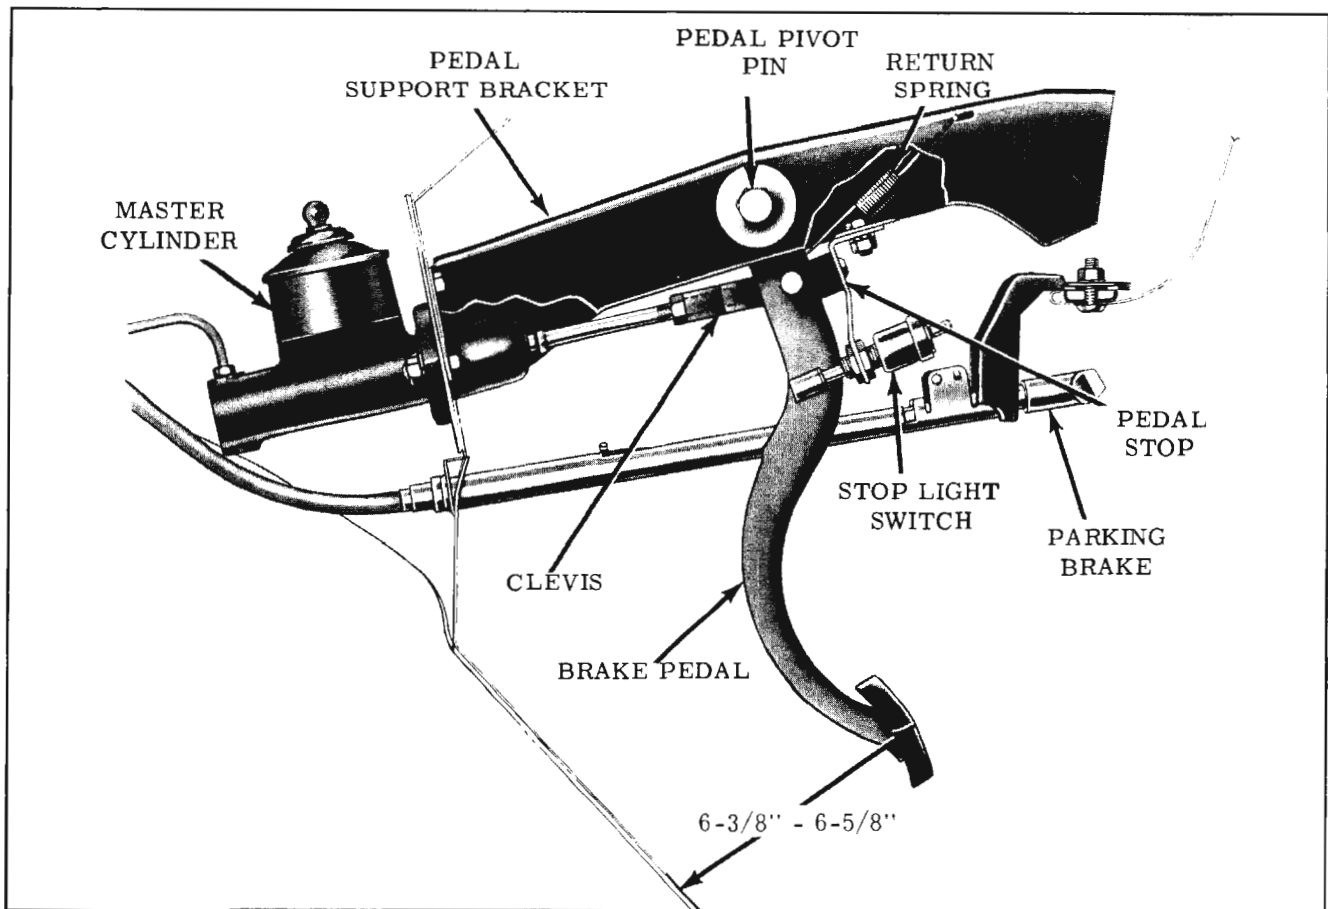

Fig. 7-106 Brake Pedal and Support
1. Turn back floor mat and check pedal height (from floor pan to top of pedal pad). If dimension is not  $6-1/2'' \pm 1/8''$ , loosen lock nut and adjust stop bracket on pedal support bracket. Tighten lock nut. (Fig. 7-106)
2. Remove the master cylinder by removing the two attaching nuts. The master cylinder can be removed without disconnecting the push rod and clevis. (Figs. 7-106 and 7-111)